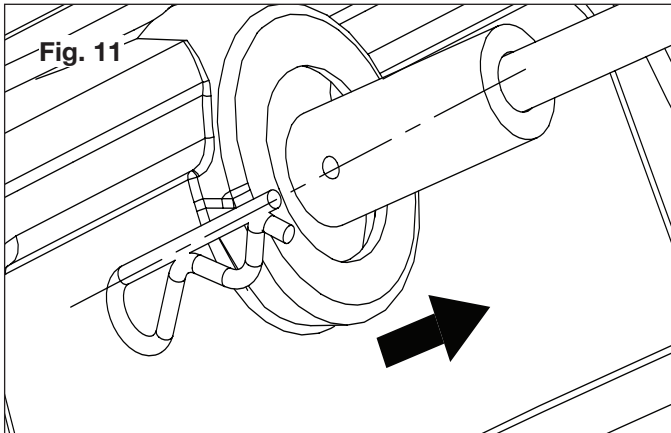

Fig. 11
3. Secure the lower crank rod in place with the cotter pin (Figs. 11 – 12).